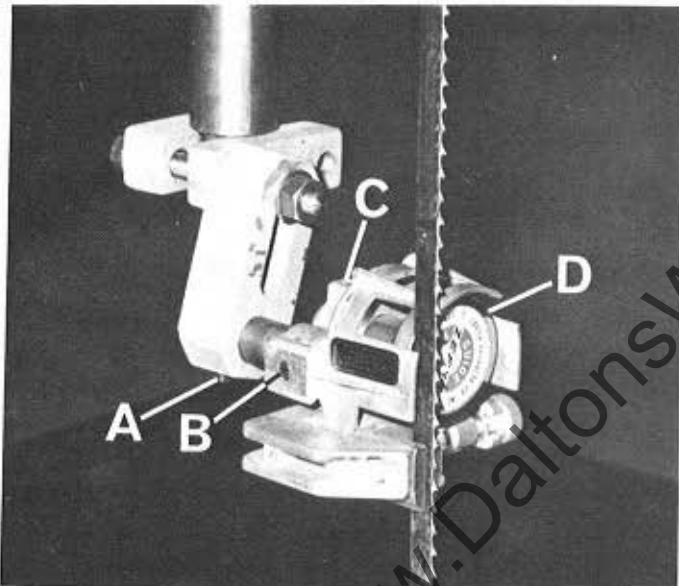
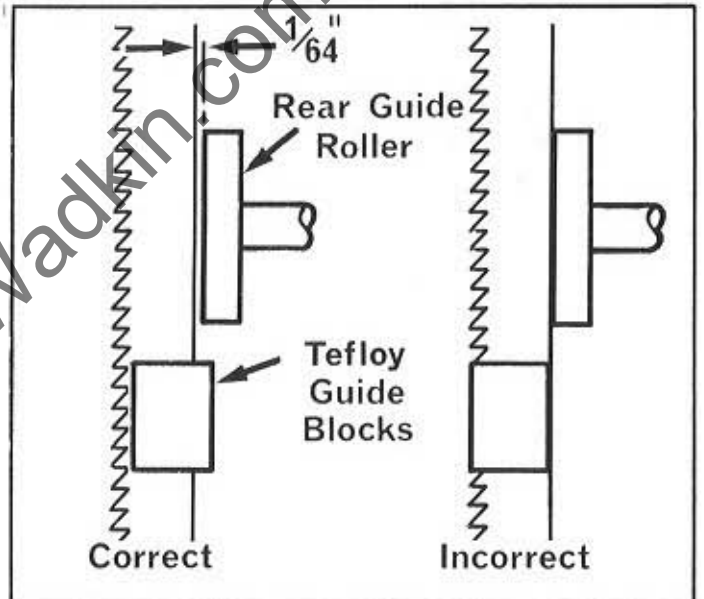

FIG 13
FIG 14
3. Loosen allen screws "A", "B" and "C", FIG.13, then position guide parallel to table top ensuring sawblade is central in gap. Lock screw "B" then move guide unit either forward or back until saw teeth protrude slightly from front of support blocks as shown in FIG.14.
When positioned correctly, relock screw "A" FIG.13, ensuring guide unit is parallel to table top.
4. Move guide roller "D", FIG.13, to position shown in FIG.14. When set correctly; relock screw "C".